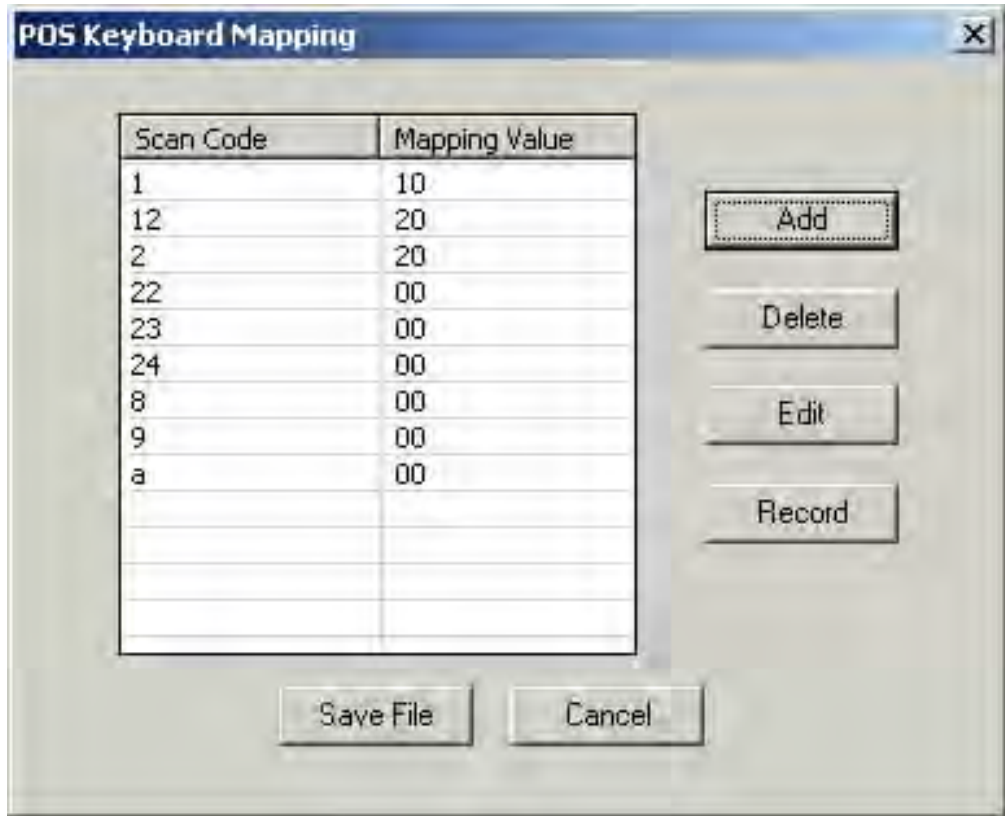

Figure 28. Sample POS keyboard mapping dialog
4. Enter the name of the POS keyboard mapping file. If the file exists, it is read and the values are displayed in the POS Keyboard Mapping window (see Figure 28 on page 152).